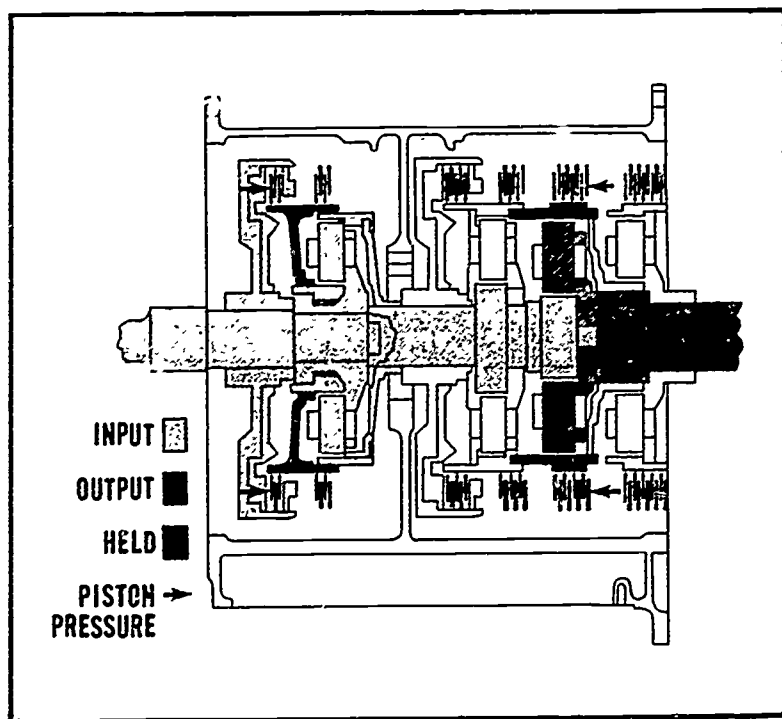

Fig. 3 First range power flow
The low range sun gear (62) is the driving member and receives torque from the splitter ring gear (30) and the turbine shaft (83). As the ring gear (40) is held and the sun gear is driving, the low planet pinions (41) are forced to walk around the ring gear, taking the carrier with them. Output torque leaves through the carrier (42), which is splined to the output shaft (51). See Figures 3 and 4.